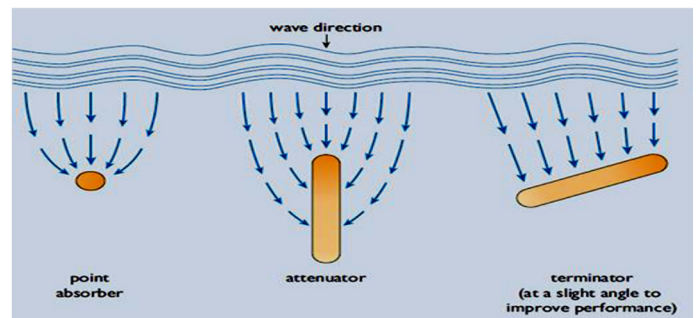

Fig. 7 Classification of wave energy converters according to size and orientation
2. Classified by geometry and orientation (Fig.7):